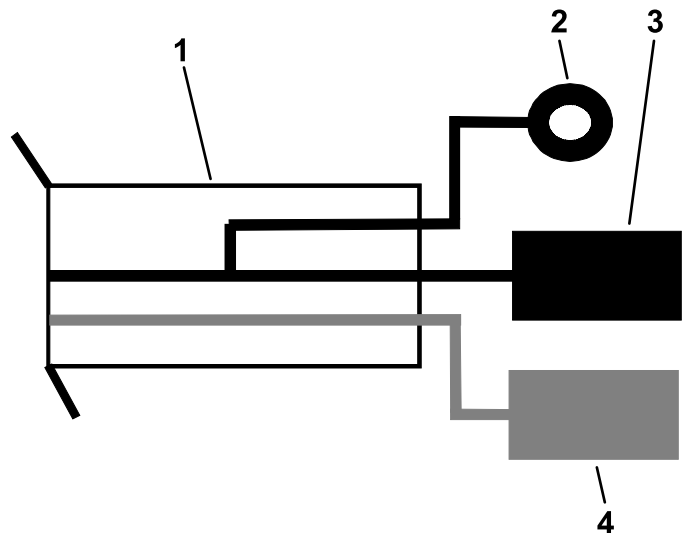

Figure 20
5. Install the black ground wire to the ground wire on the Power Converter Kit wire harness (Figure 20).
6. Install the red power wire to the power wire on the Power Converter Kit wire harness (Figure 20).